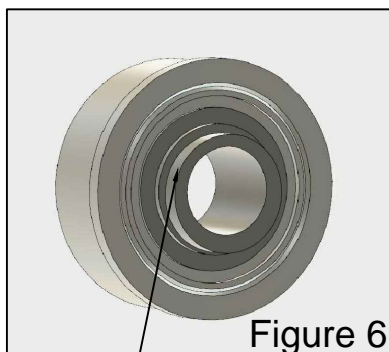

Figure 6
*Note that on the outer side of the Lower Bearing, the inside race has a machined concentric shape. See "Figure 6". This shape acts as a cam lock when the Lock Collar is rotated left or right.